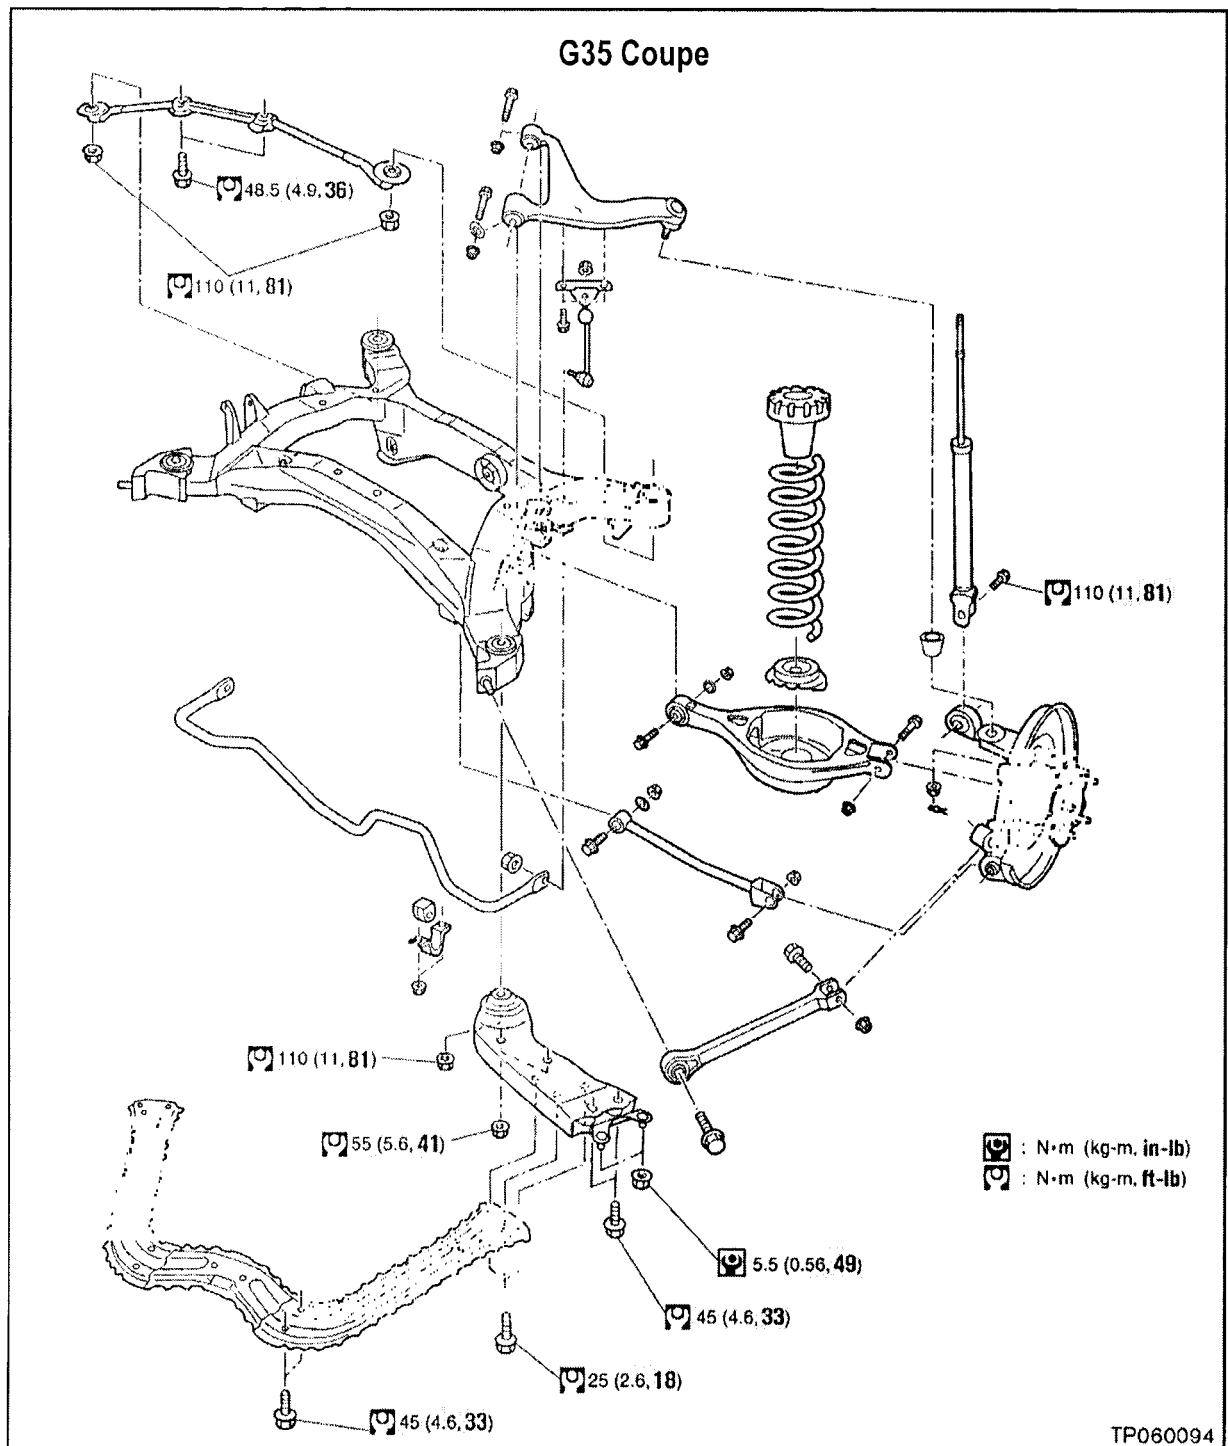

Figure 37
- All highlighted suspension fasteners (see Figures 37 and 38) are tightened to the proper torque specification.